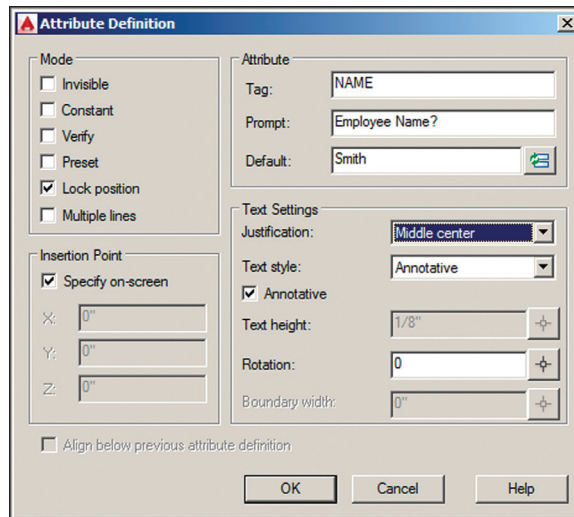

FIGURE 15.9 Specifying the properties of an attribute definition
- Expand the Block panel and click the Define Attributes tool to open the Attribute Definition dialog box. Type NAME as the tag, Employee Name? as the prompt, and Smith as the default. Set Justification to Middle Center and Text Style to Annotative (see Figure 15.9).